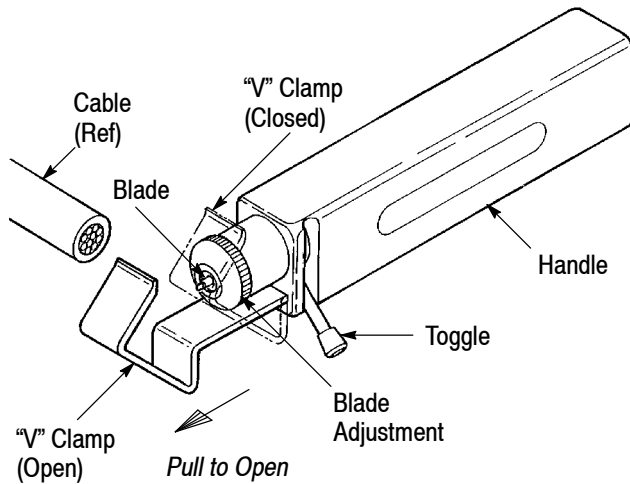

Figure 1
1. Open the "V" clamp, and place the cable under the "V" clamp. Close the "V" clamp. See Figure 1.